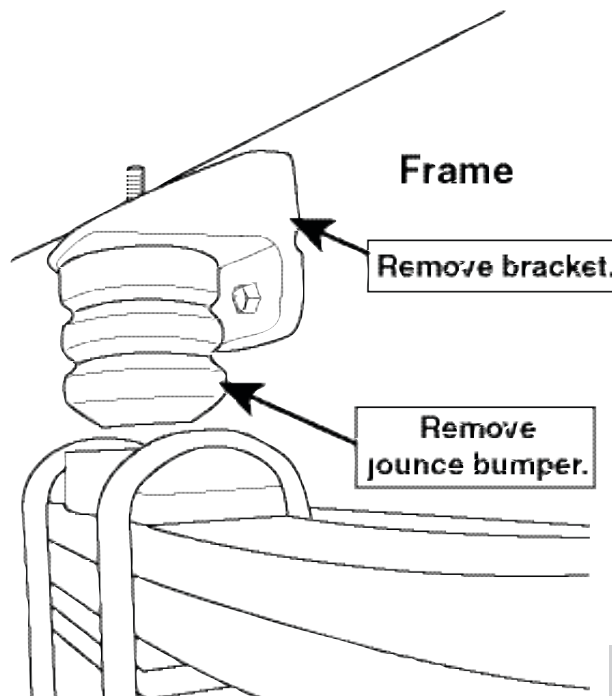

fig. 2
2. Remove the jounce bumper and bracket from the side of the frame above the leaf spring (Figure 2).